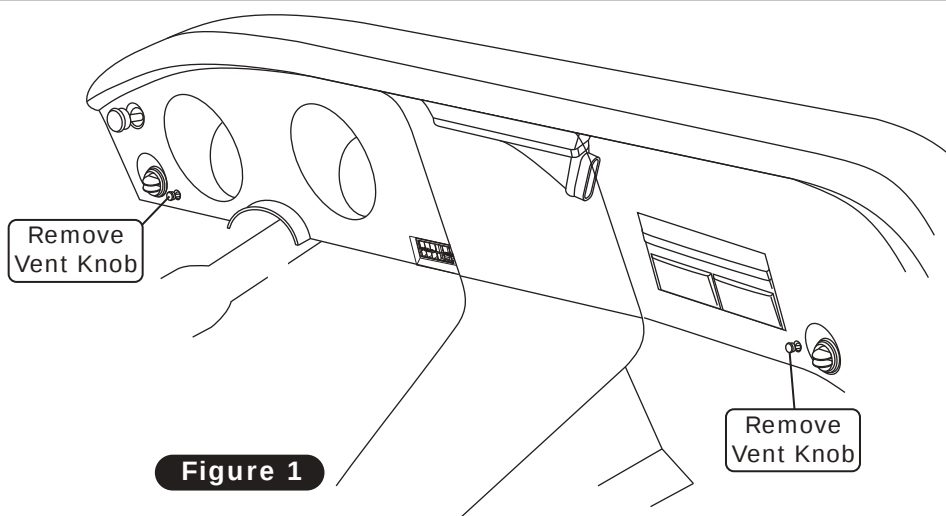

Figure 1
1. Apply a 1/4" bead of silicone around the mating surface of the fresh air cap as shown in Figure 1, below.
2. Attach the fresh air cap to the firewall using a 1/4-20 x 1" hex bolt and 1/4" USS flat washer (See Figure 1, below).
1. Remove the (2) vent knobs as shown in Figure 1, below (retain).
1. Install the hose adapter onto the driver-side under dash louver using a #8 x 1/2" pan head screw as shown in Figure 1, below, and Duct Hose Routing, Page 31 or 32.